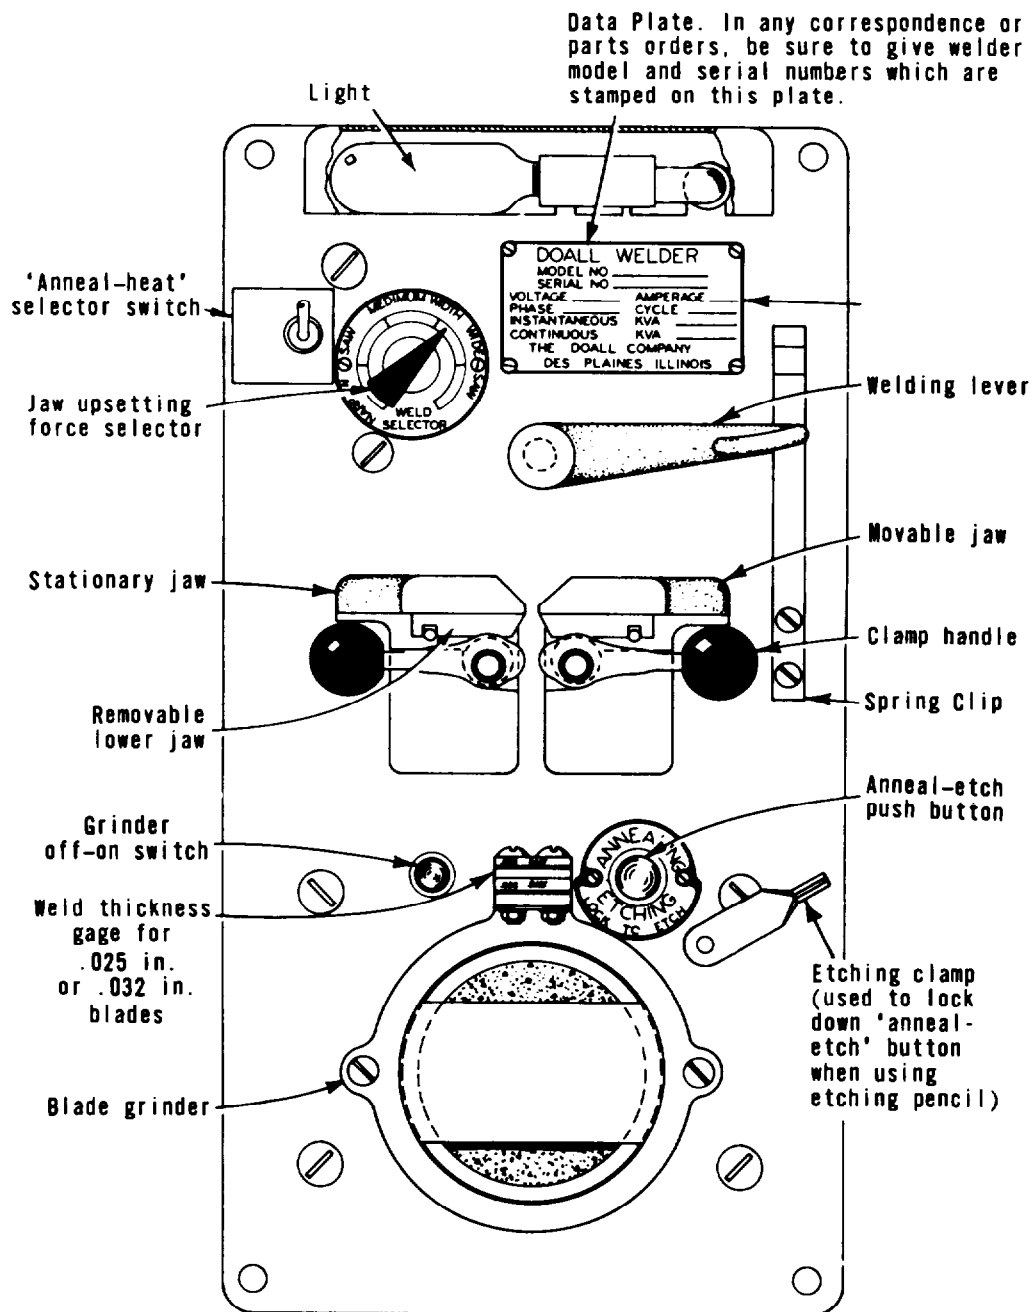

Fig. 23 - Features and controls
- (1) Clean the welder jaws.
- (2) The jaw upsetting force selector control (fig. 23) should be set to the correct position for the width of saw blade being welded.
(1) Press and hold down the weld lever (fig. 23) to make the weld. The lever should be held down until the weld has cooled.
(2) Release the stationary jaw clamp before releasing the weld lever. This will prevent scoring the welder jaw surface.
(3) Release the weld lever. When the lever is released, the butt welder mechanism and electrical switches are automatically recocked and the band is ready to be annealed.
(4) Remove the welded saw band. Inspect the weld. If weld is poor, see the Trouble Shooting Chapter.
(1) Clean the welder jaws.
(2) Press the spring clip (fig. 23) behind the weld lever and move the lever up all the way.
(3) Clamp the band just back of the teeth.
(4) Set the "anneal heat" selector switch (fig. 23) at either the 1/16" to 1/2" or 5/8" to 3/4" position, according to the width of blade being annealed.
(5) CAUTION: Follow these instructions carefully.
(a) For Carbon Blade: Press and jog the anneal switch push button (fig. 23) until the weld is a "dull cherry" to "cherry red" color. Allow the blade to cool slowly by decreasing the jogging frequency.
(3) Jaw gap adjustment. Adjust jaw gap and spring tension as follows: With slide rod pushed to extreme left, (facing front of welder) against the dog point set screw, adjust movable jaw on slide rod and lock in place to achieve .075 clearance between the jaws. This will be minimum jaw gap. Next bring the welding lever (fig. 23) up to bottom of shoulder on the spring clip, then adjust set screw to achieve .140 gap between jaws. This will give a total travel of .065. For annealing, depress lower portion of spring clip against frame and lift lever up. Full open gap in anneal position will be approximately $15/32$ ".